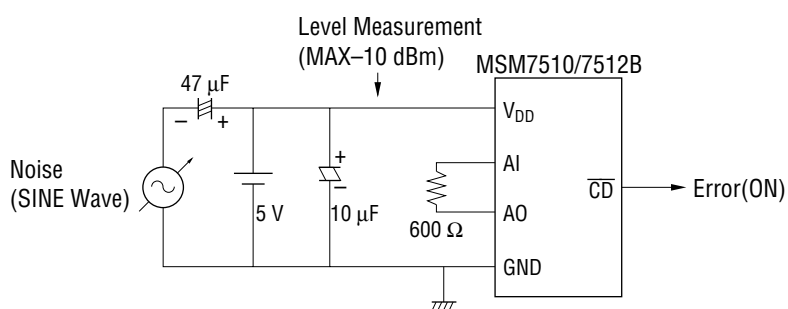

Figure 7-1 Power Noise Evaluation Circuit
Noise superimposed on the power supply (V_{DD}) affects such characteristics as the bit error rate. This is due to an internal filter that consists of a switched capacitor (SC) circuit that cannot eliminate very high frequency noise. Specifically, noise (integer multiple) passes through the internal filter as a sampling frequency of the $28\text{ kHz} \pm$ (passband) of the SC circuit. That noise is received as a modem signal. In this event, “carrier” is detected during a “no signal time”. CD does not turn off, even though a “carrier off” is observed. To prevent such characteristic deterioration, suppress as much of the power supply noise as possible using bypass capacitors, etc. Figures 7-1 to 7-3 show the result of this observed event.